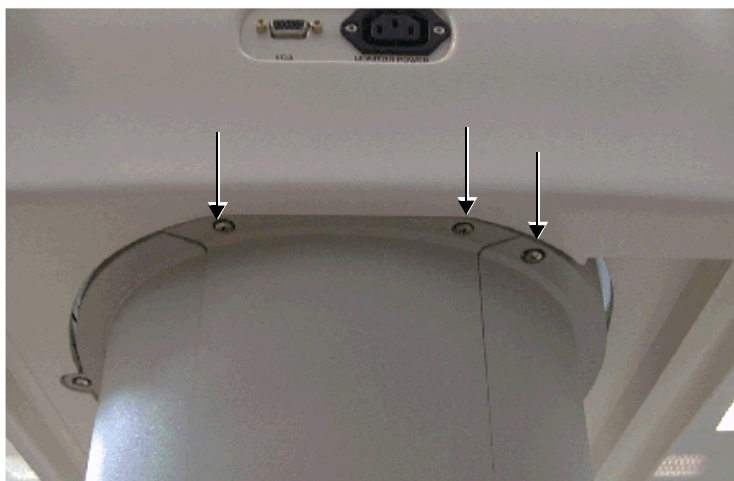

Figure 8-14 Gas Spring Cover Screws
- 6) Return the rear section of the gas spring cover to its original position and fasten it with the two screws shown in Figure 8-14 on page 8-11.
- 7) Lift the front section of the gas spring cover from the top cover collar and fasten it with its three screws, as shown in Figure 8-14 on page 8-11.